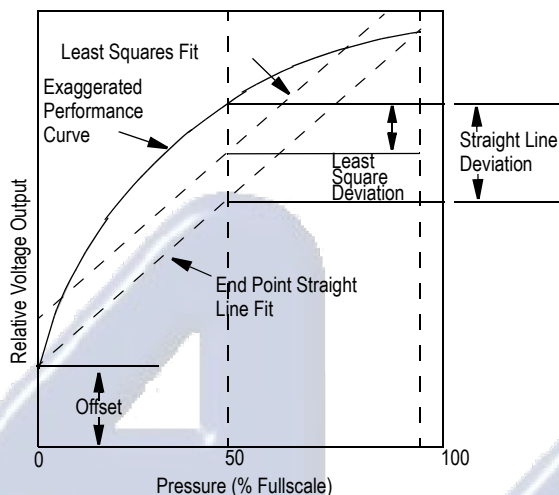

Figure 2. Linearity Specification Comparison
Linearity refers to how well a transducer's output follows the equation:  $V_{OUT} = V_{OFF} + \text{sensitivity} \times P$  over the operating pressure range. There are two basic methods for calculating nonlinearity: (1) end point straight line fit (see Figure 2) or (2) a least squares best line fit. While a least squares fit gives the